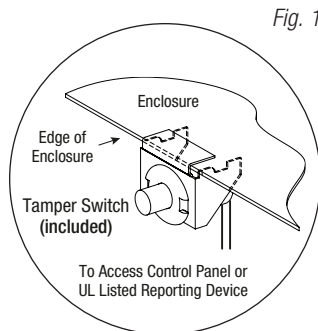

Fig. 1
2. Mount included UL Listed tamper switch (Altronix Model TS112 or equivalent) in desired location, opposite hinge. Slide the tamper switch bracket onto the edge of the enclosure approximately 2" from the right side (*Fig. 1, pg. 2*). Connect tamper switch wiring to the Access Control Panel input or the appropriate UL Listed reporting device.